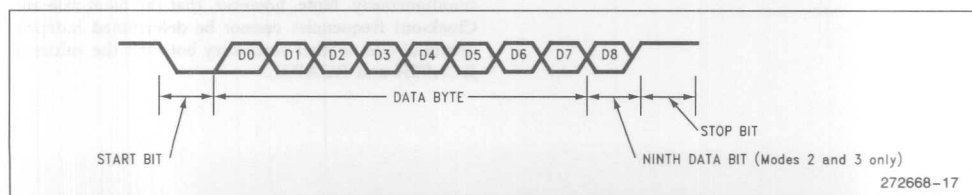

Figure 17. Data Frame: Modes 1, 2 and 3
Mode 2: 11 bits are transmitted (through TXD) or received (through RXD): a start bit (0), 8 data bits (LSB first), a programmable 9th data bit, and a stop bit (1). Refer to Figure 17. On Transmit, the 9th data bit (TB8 in SCON) can be assigned the value of 0 or 1. Or, for example, the parity bit (P in the PSW) could be moved into TB8. On receive, the 9th data bit goes into RB8 in SCON, while the stop bit is ignored. (The validity of the stop bit can be checked with Framing Error Detection.) The baud rate is programmable to either 1/32 or 1/64 the oscillator frequency.